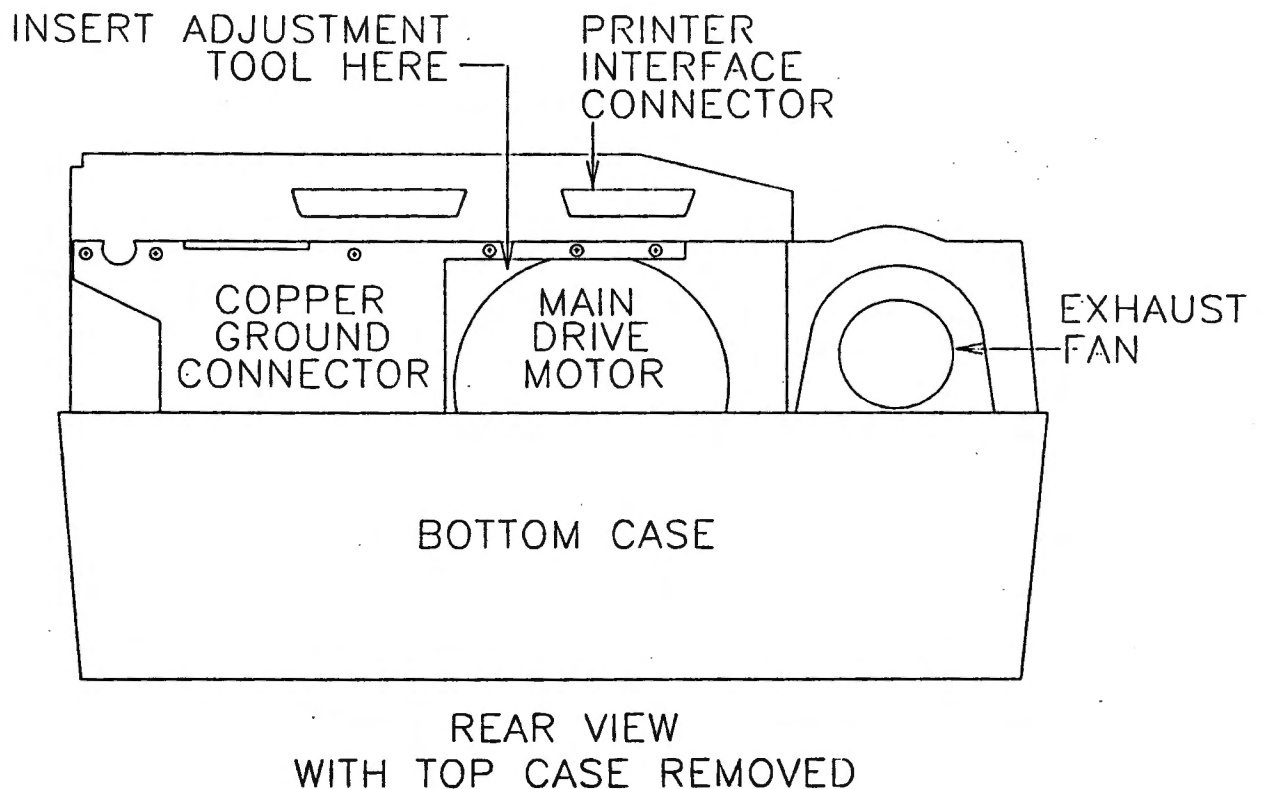
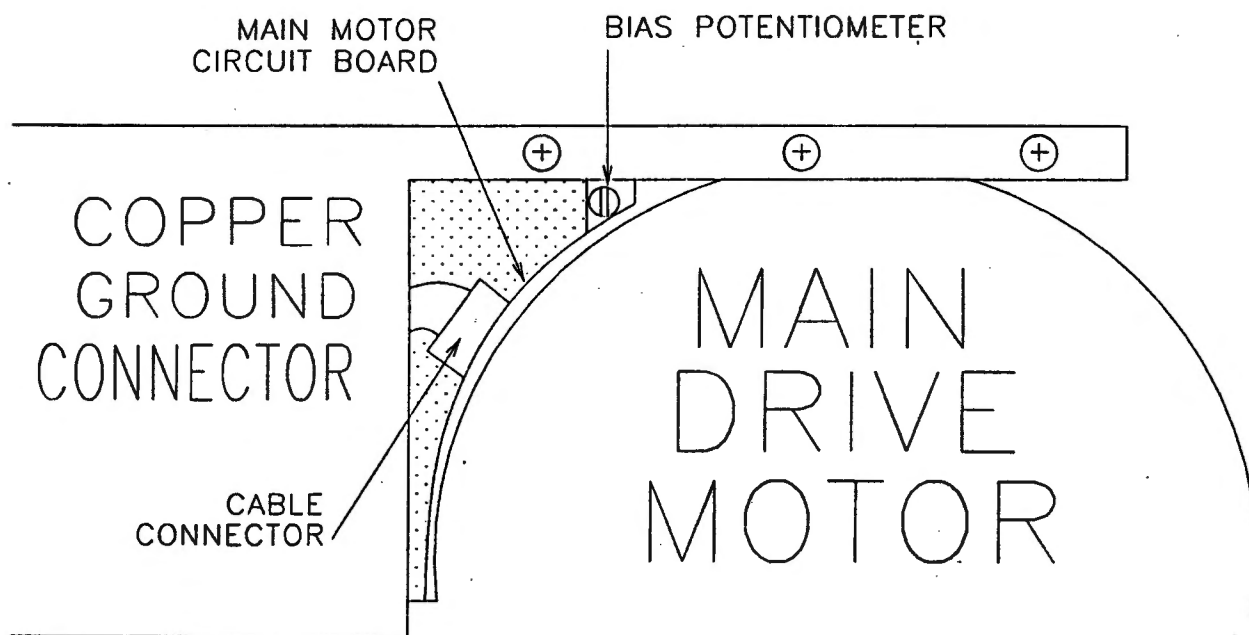

Figure 2
Figure 3
7. The potentiometer that is to be adjusted is part of the charge/bias power supply. From the back of the printer, it is recessed in about 3 inches. Position a plastic TV alignment screwdriver (with an extender) through the back of the printer as shown in figures 2 and 3. Figure 2 shows a rear view of the printer with the case top off and closed. Figure 3 shows an enlarged view of the area showing the exact location of the potentiometer. A flashlight may be necessary to help locate the potentiometer. DO NOT push in too hard towards the potentiometer, as it may bend and become unadjustable.